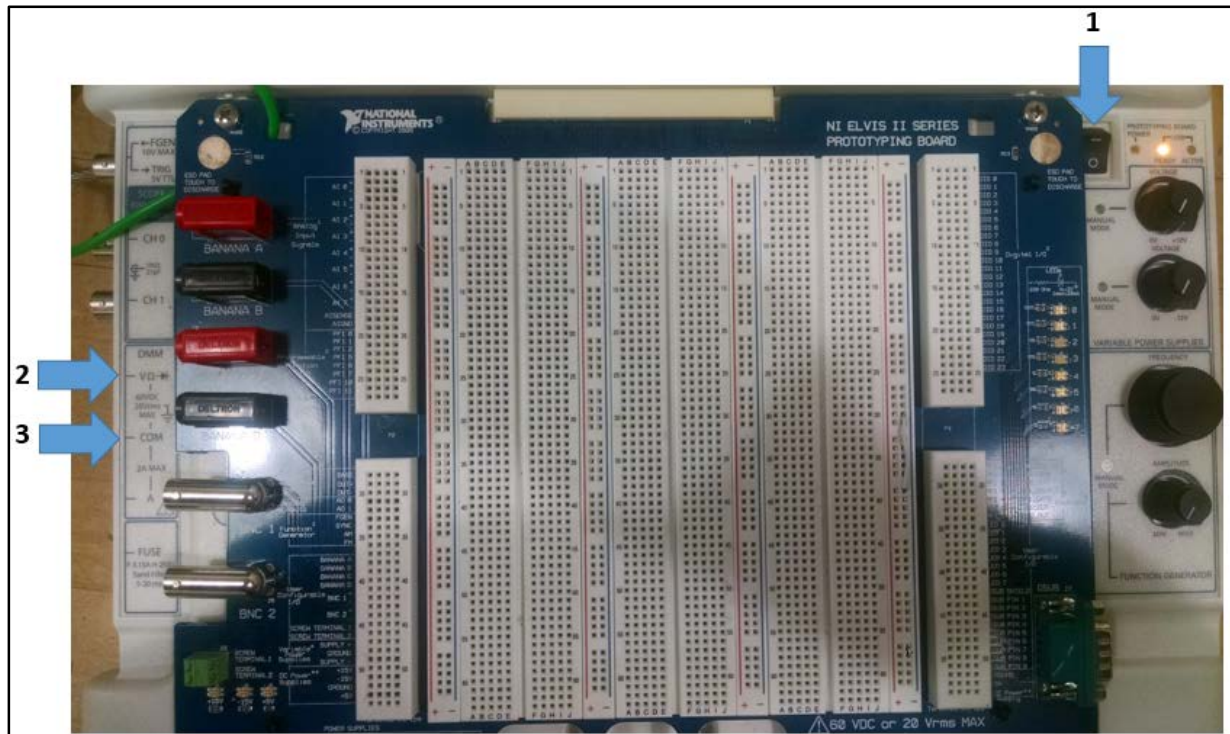

Fig 4. NI ELVIS+ with enumerated parts.
8. Connect the other lead from the + 20V jack of the DC power supply to the HI on the DMM (Fig.4 – 3).
- The switch on the front upper right hand corner (Fig.4 – 1)
3. Connect the two leads that were connected to the Agilent DMM to the ELVIS DMM input and COM (Fig.4 – 2, 3)